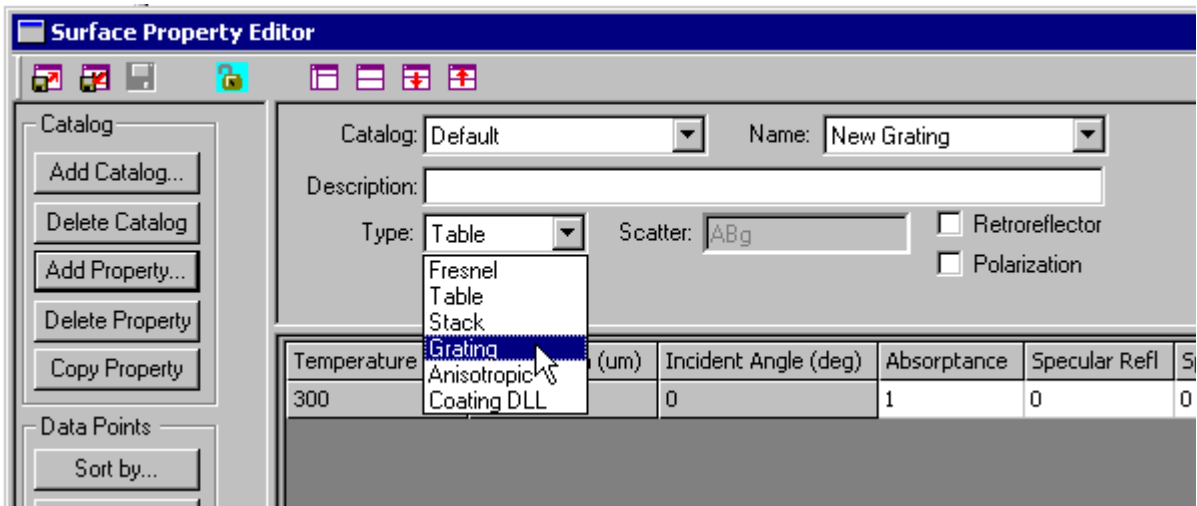

FIGURE 9.47 - Creating a surface property of type Grating.
- 2. From the Type drop-down list, choose Grating as shown in Figure 9.47.